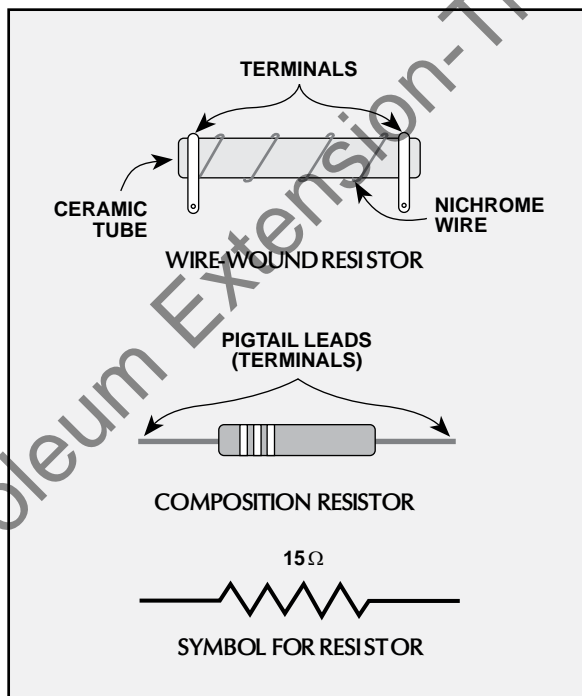

Figure 46 Two types of resistors and the symbol for a resistor
Resistors are made from (1) a special wire, (2) a mixture composed of conductive and nonconductive materials termed a *composition*, or (3) a thin membrane, or skin, called *film*. Figure 46 shows a wire-wound resistor, a composition resistor, and the
symbol for a resistor, which is used in schematics (drawings) of circuits. Also shown is the Greek letter Ω (omega), which stands for ohms. The resistor in figure 46 is a 15-ohm, or 15- Ω , resistor.